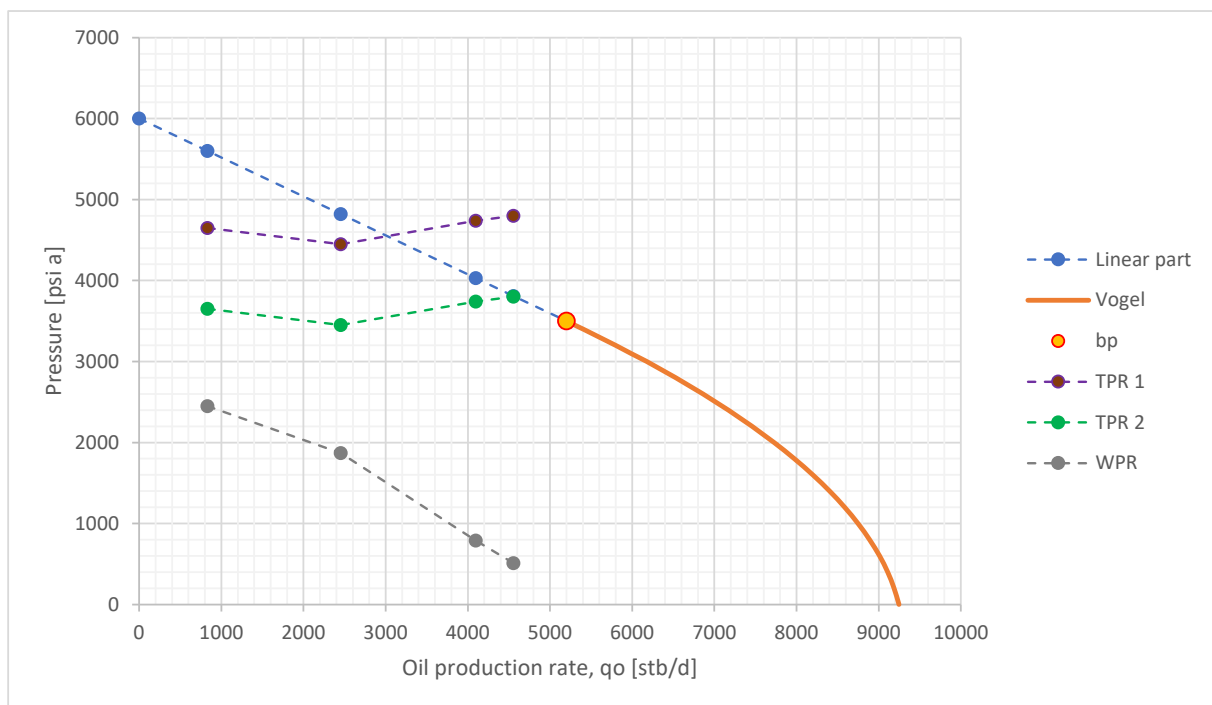

Figure 1: IPR, WPR and TPR curves
For the plot calculation, make pwh the independent variable ("x") and q_o the dependent ("y"), then flip the axis. The rest should be straight forward (see Figure 1).
For plot, see Figure 1.
G) The wellhead pressures may also be plotted in the diagram (they are pressures although not bottom hole pressures); see Figure 1.